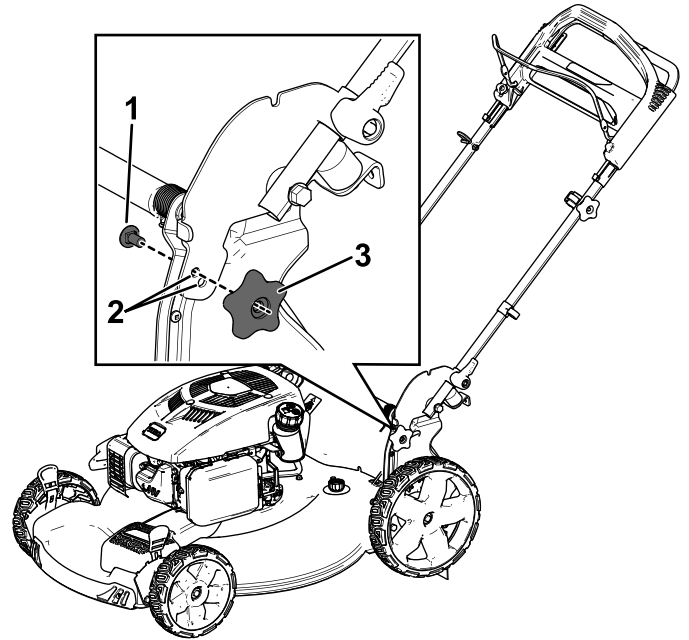

Figure 14
You can raise or lower the handle in 1 of 2 positions that is more comfortable for you (Figure 14).
1. Remove both handle bolts and knobs (Figure 14).